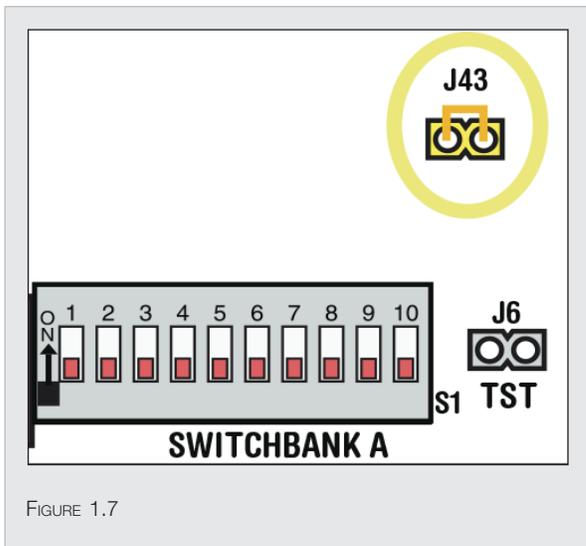

FIGURE 1.7
2. Remove and put the jumper across J43, covering both pins. (see fig. 1.7)